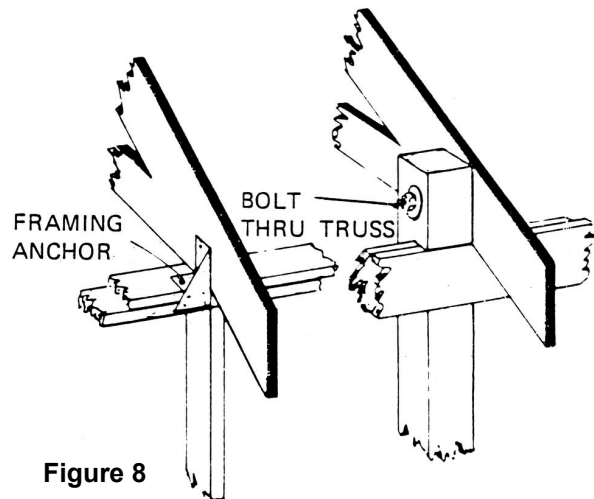
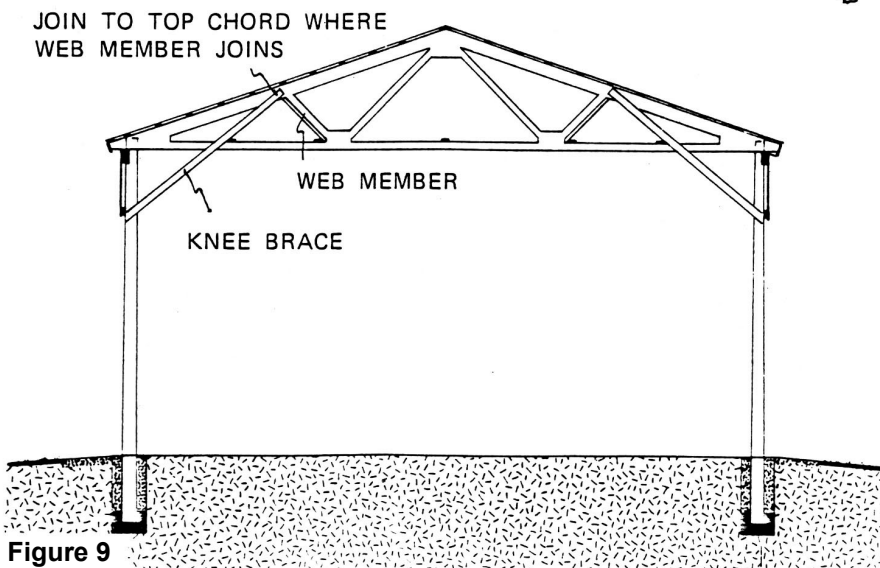

**Figure 6**
**Figure 7**
- The truss design engineer is responsible to check for possible buckling of compression web members; his engineering drawings specify wherever stiffeners are required for lateral support. There is still a possibility that all webs could buckle in the same direction, so permanent cross-braces should be added to the longitudinal stiffeners at each end of the building (Figure 6). Similar permanent longitudinal stiffeners and cross-bracing are required for tension web members 2.4 m (8 ft) and longer in case of stress reversal (wind uplift, etc.).
It is also recommended that permanent cross-bracing be installed at midspan between truss pairs at both ends of the building (Figure 6 ☺). In longer buildings, this permanent cross-bracing should be repeated at approximately 30 m (100 ft) intervals as well.
lower chords, preferably where webs join, but not over 2.4 m (8 ft) on center (Figure 6). The cross-bracing shown provides support for both the web and lower chord longitudinal stiffeners. Special bracing of the long compression web of a single-slope truss is shown in Figure 7.